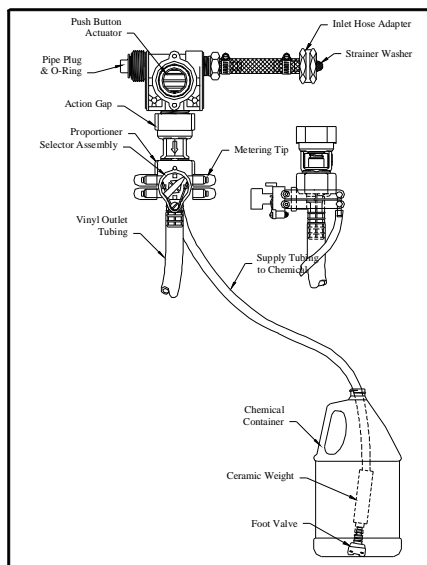

FIGURE 3
D. SELECTOR CONNECTION: (Refer to Figure 3)